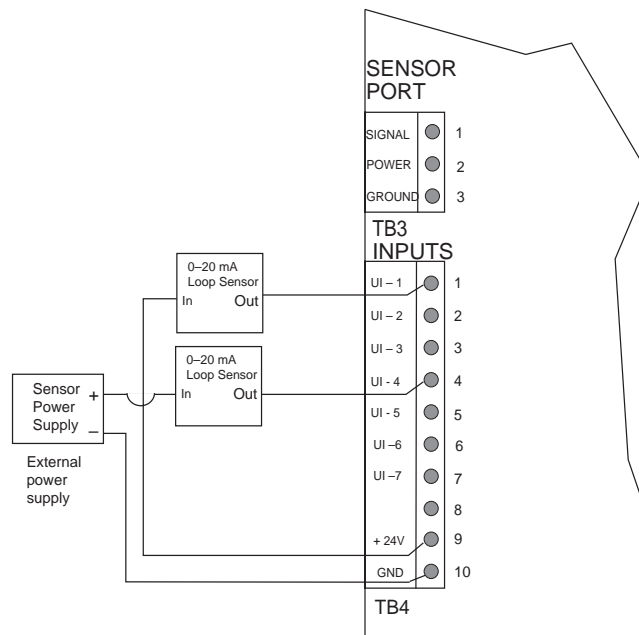

Figure 10. 0–20 mA Loop Sensor Connection
1. Connect the output lead from the 0–20 mA sensor to the selected UI-x input terminal (see Figure 10).
Note: If more than five 0–20 mA loop sensors are required, an external DC power supply **must** be used (see Figure 10).